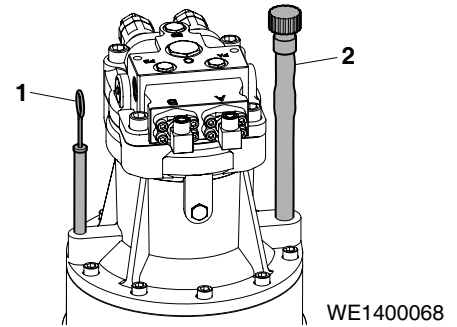

Figure 95
4. Remove breather/fill cap (2, Figure 95) and add oil to "H" mark on dipstick (1).